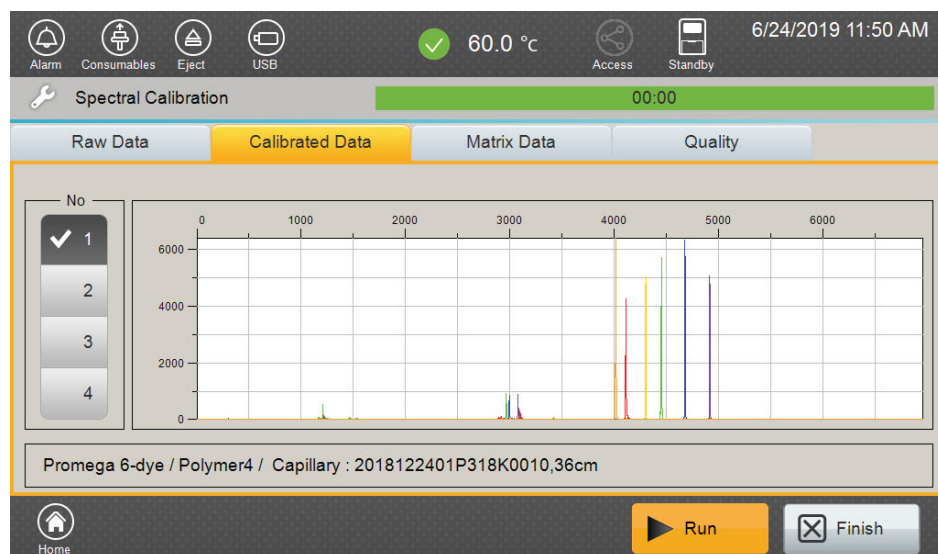

Figure 25. Spectral Calibration 'Calibrated Data' tab.
2. The 'Calibrated Data' tab can be used to view the matrix peaks with both baseline and spectral applied for each capillary (Figure 25).